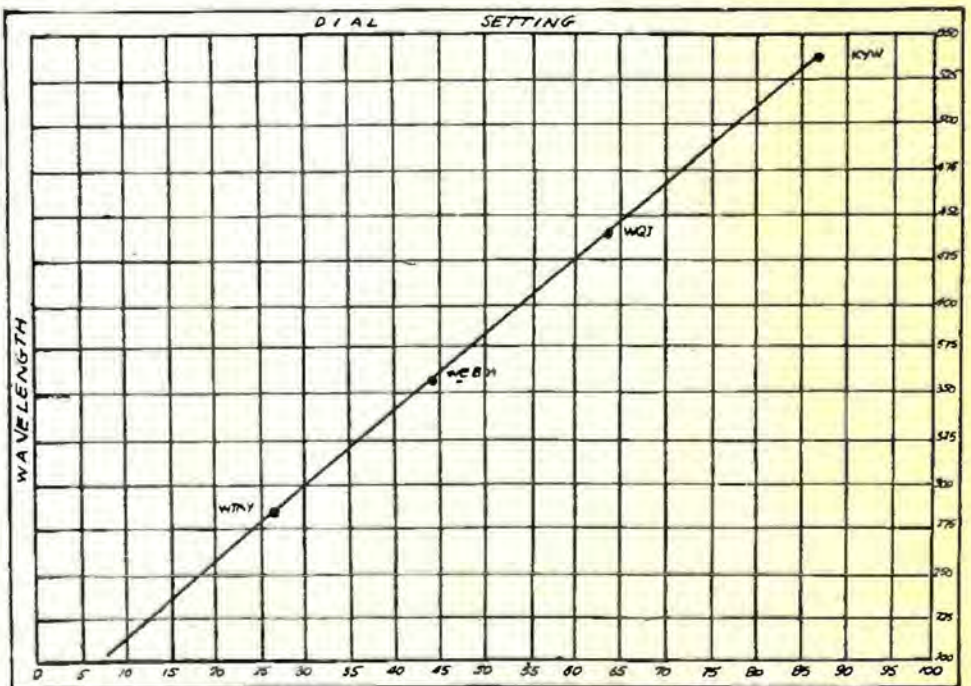

Figure 3.
The first step in this procedure is to rule out a sheet of paper as illustrated in Figure 3. This is what is called a calibration graph, and will give us a wavelength curve for the coil and condenser combination we are using.
**NOW** you have probably wondered why we need a buzzer on the thing. Simple—Now suppose we had calibrated the Station Finder dial to the curve shown in Figure 3. Again suppose we were going to listen for Europe with a non-regenerative set, with which we were not acquainted